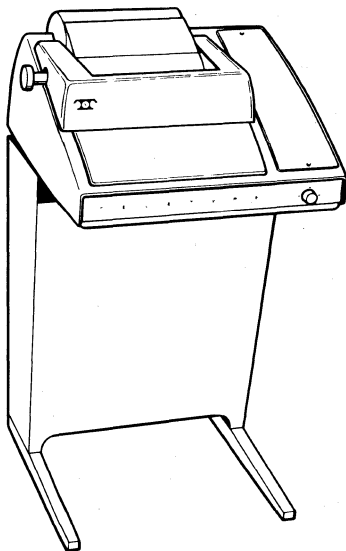

Figure 1 - Typical Model 33 Receive-Only (RO) Teletypewriter Set
#### RECEIVE-ONLY (RO) TELETYPEWRITER SET (Figures 1 and 4)